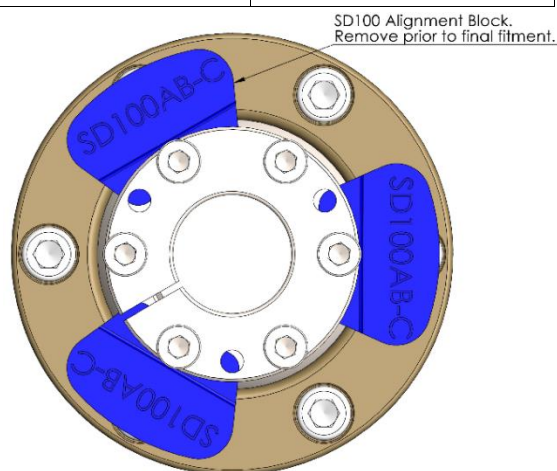
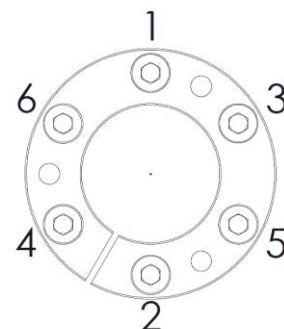

Fig1. Alignment block
Fig 3. Tightening Sequence
- Insert the clamp unit into the central sphere and loosely tighten the M8 taper locking bolts (9) using an allen key in a crossed sequence (see fig 3). If alignment blocks are not being used (see fig 1), then go to step 8.
- Use the alignment blocks to hold the clamp unit parallel. Insert the blocks evenly spaced under the clamp unit as per fig 1, and gently tighten the taper locking bolts (9), to sufficiently hold the alignment blocks in place. Do not torque the taper locking bolts (9) until alignment is complete and the alignment blocks have been removed. Proceed with normal alignment and fixing methods with propeller shaft and gearbox, taking care not to exceed the maximum working angle when centering Sigmadrive to gearbox output flange. Please go to step 9.
- Once the SigmaDrive is aligned with the gearbox flange. Fit the M10 Nyloc nuts (13) and locking washer (12) to the M10 high tensile studs (11) and tighten firmly to a torque of **61Nm**.
- Tighten the M8 taper locking bolts (9) in the sequence indicated in fig 3 at least 3 times by hand using an allen key.
- Tighten the M8 taper locking bolts (9) in the sequence indicated in fig 3 with a torque wrench to 25Nm, then 30Nm and finally 38Nm. Only tighten to required torque once. Do not exceed 38Nm of torque, this could make it difficult to remove if it is overtightened.